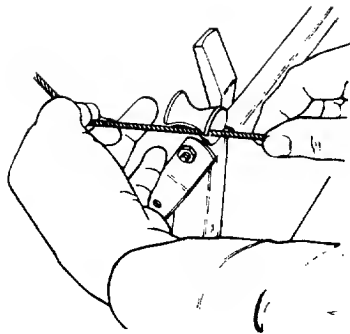

FIGURE 10.
5. **Models 115R thru 119R Only:** If not already assembled, slip the starter rope into the rope guide as shown in figure 10.